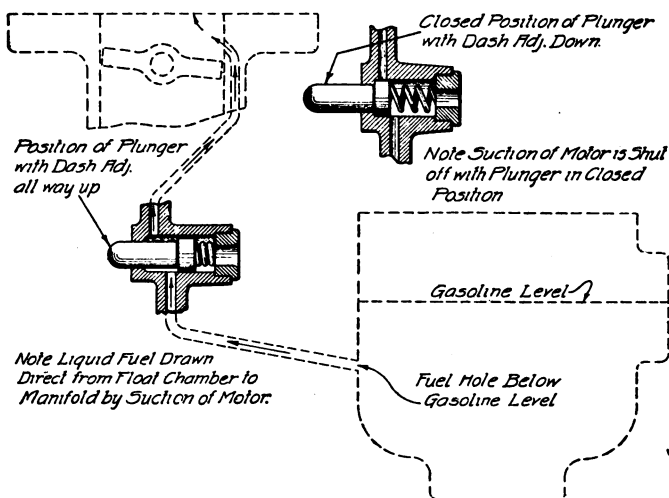

Fig. 104. Sketch of Starting Primer Attached to Model "N" Rayfield Carburetor
*Adjusting Model "M".* The Rayfield firm makes another model, known as Model "M", which is similar to the Model "L", except that it has a side, or horizontal, outlet. It has the same two adjustments, made in the same way, but the shape of the carburetor locates these in a different place. The low-speed adjusting screw is on the extreme top of the carburetor, and the high-speed adjusting screw is also on the top, but it is made accessible by removing the hot-air elbow from the main air valve. This model is fitted with a starting primer incorporated in the device itself and operated through the medium of a dash lever. In the sketch, Fig. 104, which is self-explanatory, the construction and operation of this are shown. When pressure feed is used, not more than one pound is recommended for Model "M". When the starting primer is to be attached, the following method should be used: Locate the position on the dash desired for the push button and drill a  $\frac{5}{8}$ -inch hole at the proper angle. Attach the adjustment and run the tubing to the bracket on the carburetor, avoiding sharp bends. Cut off the tubing so it will extend beyond the bracket not more than  $\frac{1}{4}$  inch. Remove the temporary wire from the carburetor, insert the tubing and secure permanently by tightening the clamp screw. Run the dash adjustment wire through the hole in the binding post on the eccentric lever. Then, with the push button down, place the eccentric arm in position so that the line on the eccentric just comes in contact with the adjusting screw. Tighten the screw in the binding post, cut off the surplus wire, and, without changing the position of the push button, make the carburetor adjustment, as previously described.